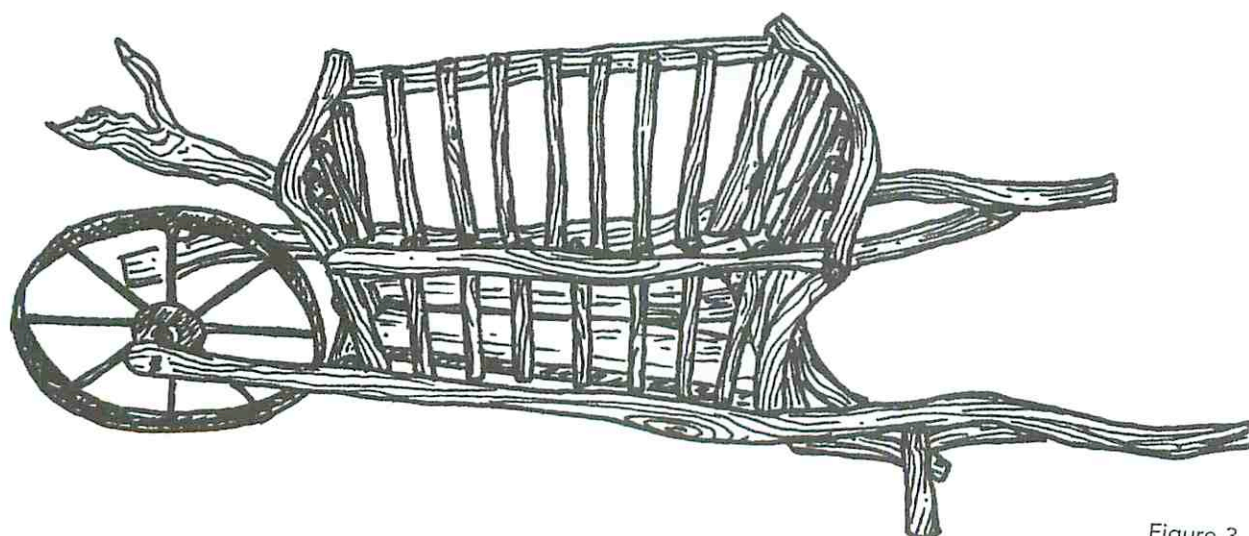

Figure 3
Time to attach the legs (G). Predrill holes and secure the legs to the handle with lag bolts. The legs will also need to be braced. See Fig. 3. The frame should be solid enough, but add more bracing if you feel it's required.